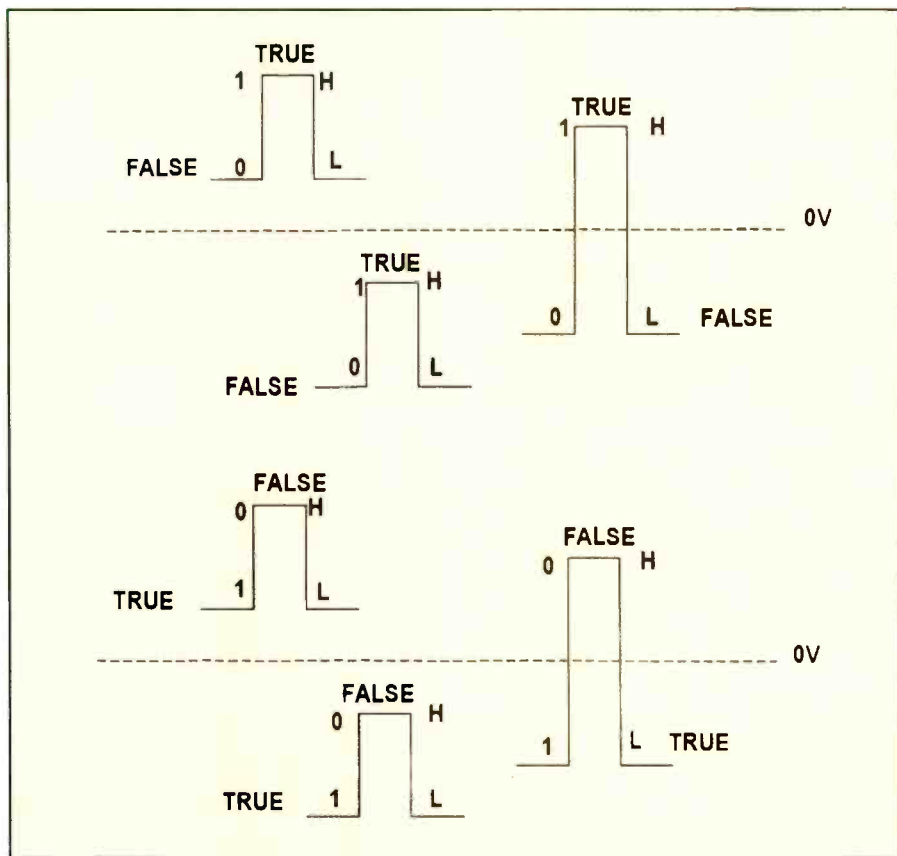

Figure 1. Logic conventions describe the arbitrary values we assign (1,0, True, False, etc.) to the hardwired system voltage swings.
While *digital* represents quantities in multiple discrete increments, *logic* implies that a decision is made based on supplied information. Most logic used nowadays is positive convention. In positive logic, the more positive voltage will represent a binary 1 or "True" or "High" state. Also, in current logic, a true, asserted, 1 state, or closed switch is represented by 20mA, and a 0 or off, or inactive, or open switch by 0mA. It is agreed, however, that when using the High (H) and Low (L) system, the H is always the more positive voltage and the L is always the more negative voltage. Figure 1 contrasts logic conventions.